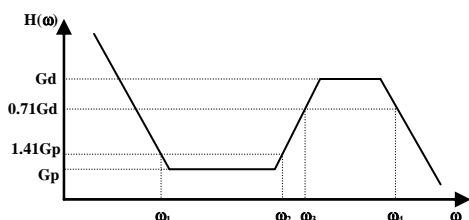

Figure 9 Transfer Function of the Compensation Network
The transfer function of the compensation network, defined as $H(\omega) = V_{TEC}(\omega) / TEMPOUT(\omega)$, is shown in figure 9.
- d. $C_D * R_1$ determines the corner frequency, $\omega_2 = 1/(C_D * R_1)$, where the differential component starts picking up (see Figure 9), as the frequency goes up.